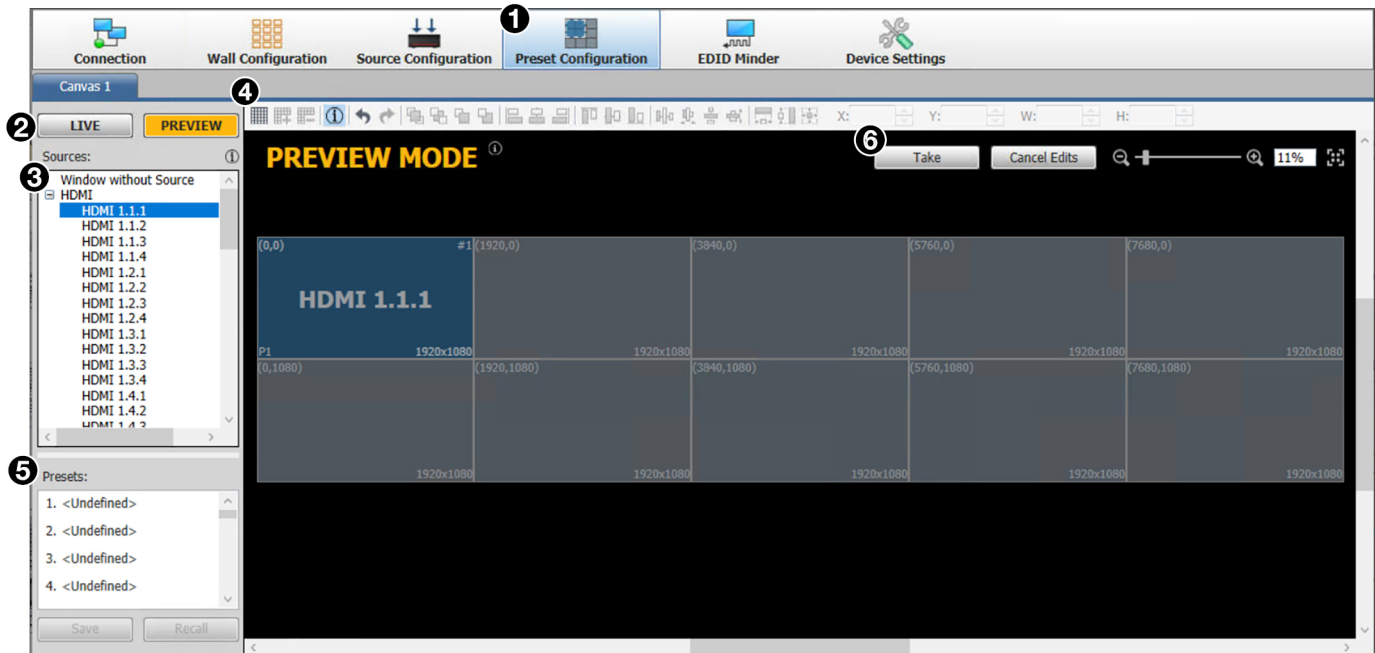

Figure 11. Preset Configuration Window
1. On the taskbar, click the **Preset Configuration** task button to display the preset configuration workspace (see figure 11, ①). The Canvas in this workspace is a virtual representation of the videowall you set up on the Wall Configuration screen (see Configuring the Videowall Using VCS on page 5).
2. Click the **Live** or **Preview** button (②) to select the mode in which you want to configure the preset (see the *VCS Help File* for more information on configuration modes).
- a. Click on a source name (**HDMI**, **IP**, **Picture**, **Clock**, **VNC**, **Text**, or **RSS**) in the Sources (left) panel (③), and drag it to the desired location on the Canvas. A window containing the source name appears on the Canvas. You can also drag in a **Window without Source**, for which no input signal is displayed in the window on the Canvas.
4. If a window completely or partially covers another window, set the priority for each window by selecting the window, then clicking a priority icon on the toolbar above the Canvas (④). The priority number of the window (P1, P2, and so on) is displayed in the lower-left corner of the window on the Canvas (see the image in step 3a, above). You can also use this toolbar to align multiple windows with each other and to set the size of multiple windows on the Canvas.
- In the Presets list in the lower-left corner of the screen (see figure 11, 5 on the previous page), select a slot for the preset to be saved.